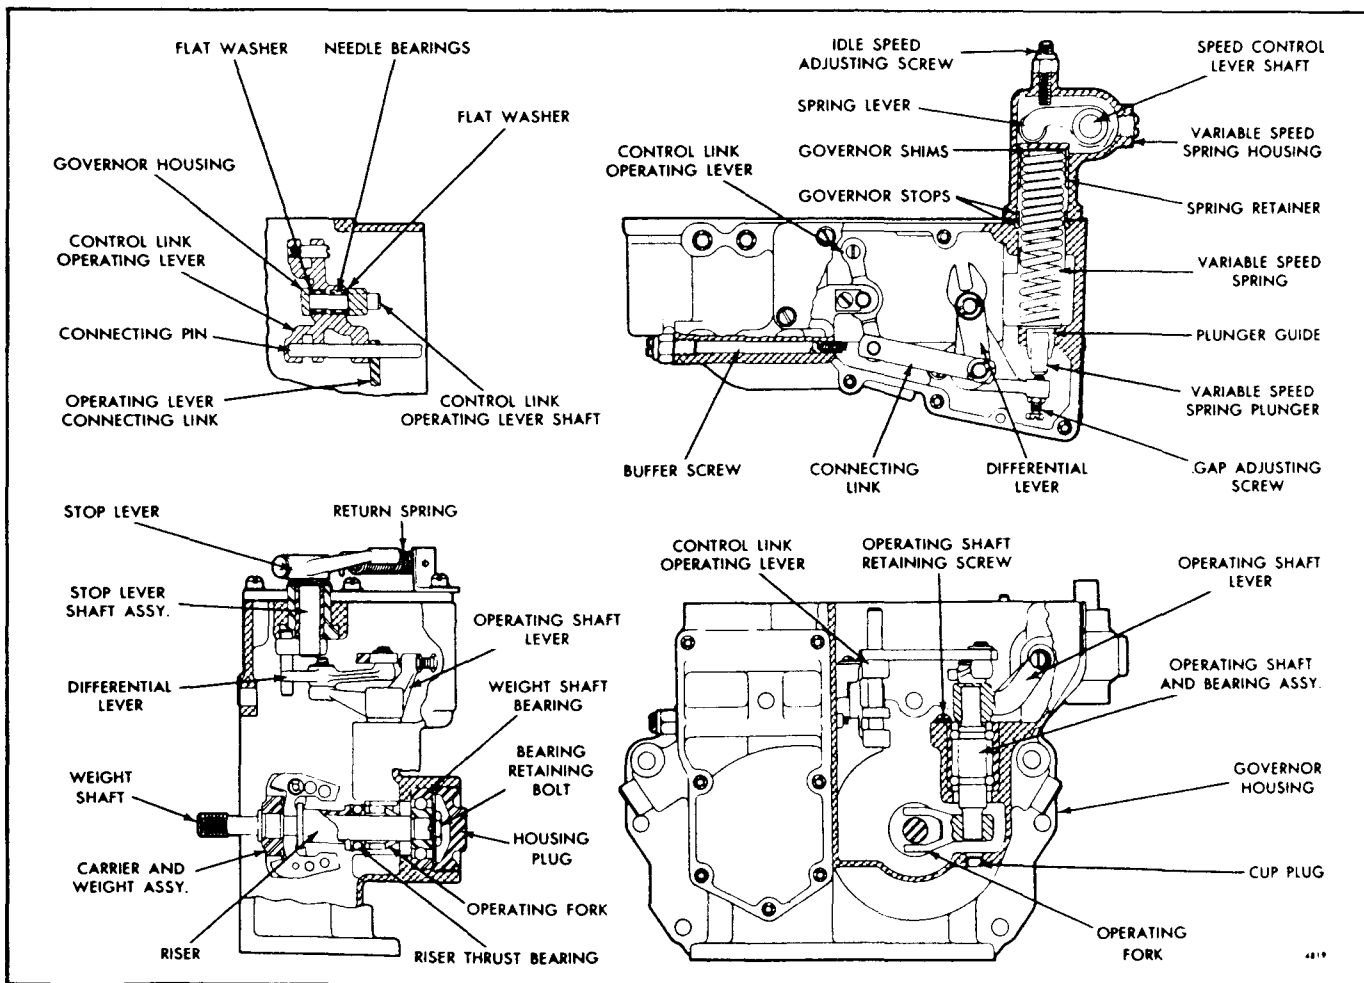

Fig. 1 - Cross Sections of Variable Speed Mechanical Governor
Refer to Fig. 1 and install the governor as follows:
The variable speed mechanical governor, illustrated in Fig. 1, performs three functions:
The centrifugal force of the revolving governor weights is converted into linear motion which is transmitted through the riser (Fig. 1) and operating shaft to the operating shaft lever. One end of the operating shaft lever bears against the variable speed spring plunger, while the other end provides a changing fulcrum on which the differential lever pivots.
With the governor cover removed from the governor housing, refer to Fig. 1 and disassemble the cover as follows:
- b. Remove the governor weight housing plug and gasket (Fig. 1).